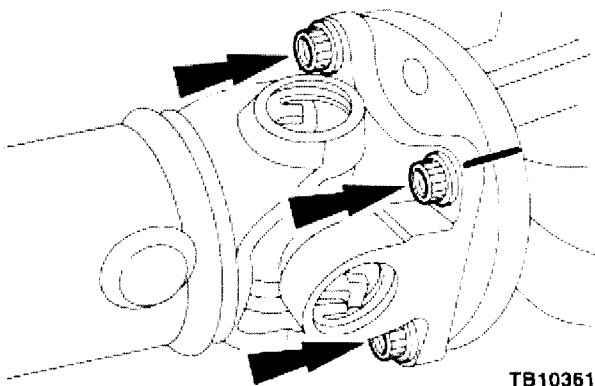

Figure 1 - 14-0090
4. Index-mark the driveshaft flange and pinion flange for correct alignment during installation. (Figure 1)
16. Position the driveshaft to the pinion flange and align the index marks. (Figure 1)
17. Install four (4) new driveshaft flange bolts and tighten to 103 Nm (76 lb-ft).